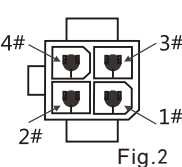

Fig.2:
Step 1.Switch on the tensioner without wiring. If the tension value shown is not "zero", long pressed "X" button for over 5 seconds to set zero.Route the wire refers to the fig2 and use the wool clamp knob to adjust the tightness to the wire. Generally, the tightness should be ~5 to 10% of safety tension value of the wire.